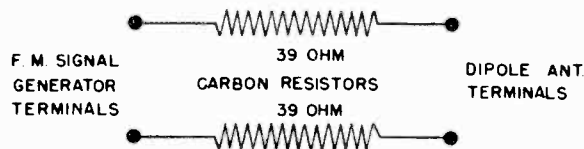

FIGURE 2
1. 78 ohm Dummy Antenna (Fig. 2).